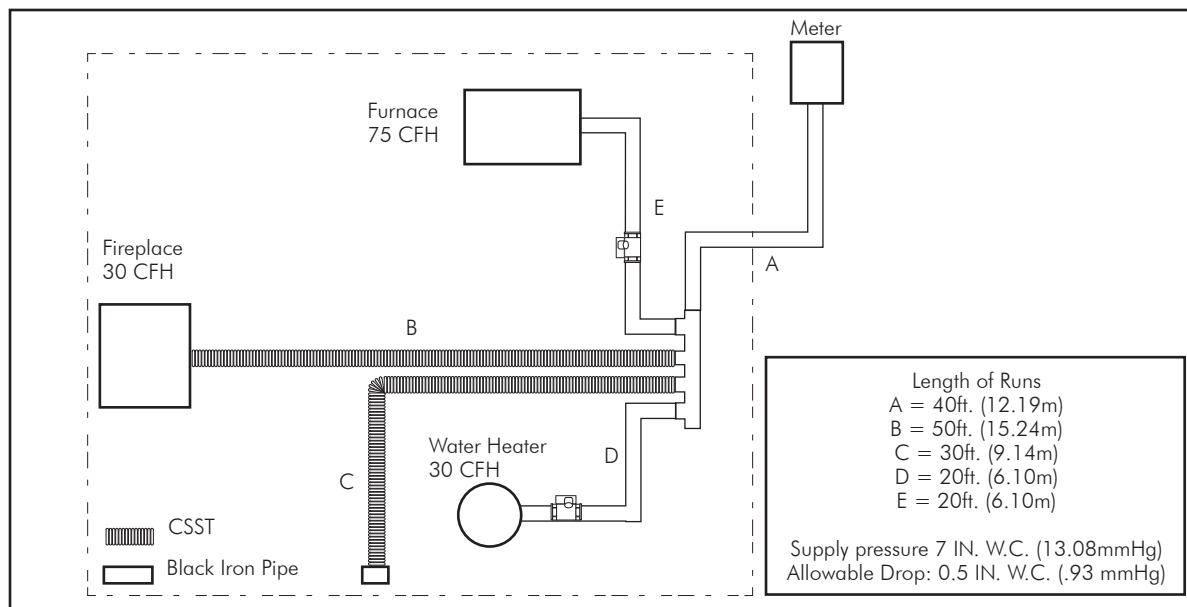

Fig. 3-6 Black Iron Pipe and CSST Systems
1. When adding DIAMONDBACK™ to an existing black iron pipe system use the longest length method explained earlier in this chapter. In FIG. 3-6 the home has an existing supply line of one-inch black iron pipe. The supply pressure is 7 in. w.c. (13.08mmHg) with an allowable drop of 0.5 in. w.c. (.93mmHg).
2. To size Section A, determine the total load of the home (170 CFH) and the longest run, 90 ft. (27.43m). Table N-8 (Page ??) shows that 1" (25) dia. pipe has a capacity of 205 CFH at 90 ft. (27.43m) The 1" (25) dia. pipe (Section A) will handle the load.
3. To size Section B, determine the load of the fireplace (30 CFH) and the length of the run, 90 ft. (27.43m) Table N-1 (Page ??) shows the suitable size DIAMONDBACK™ is $\frac{1}{2}$ " (13).
4. To size Section C, determine the load of the quick connect (25 CFH) and the length of the run., 70 ft. (21.34m) Table N-1 shows the suitable size DIAMONDBACK™ is $\frac{1}{2}$ " (13).